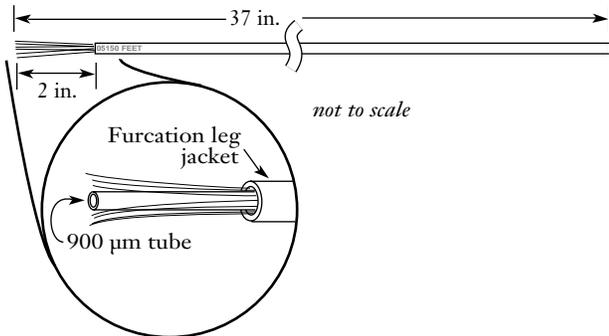

Figure 1
4.2 Remove 2 inches (5 cm) of jacket from one end of each leg (Figure 1) and check the end of the 900 μm tube to be sure it is open. Cut the tip of the tube with a razor blade, if necessary, to open the end of the tube.